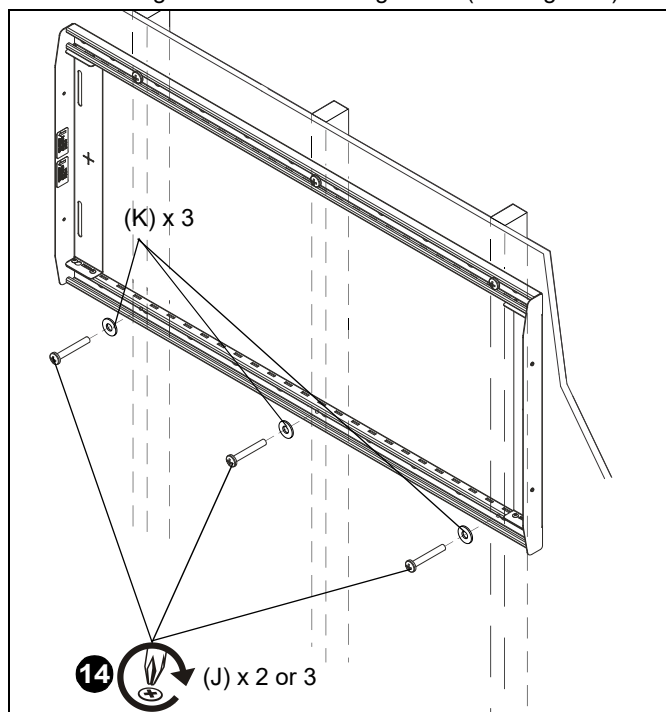

Figure 8
13. Tighten screws (J) to secure rail assembly (C) to wall at upper mounting slots. (See Figure 8)
14. Use two or three 1/4-20 x 2" Phillips pan machine screws (J) and two or three 1/4" washers (K) to attach the mount to the wall through the lower mounting holes. (See Figure 8)